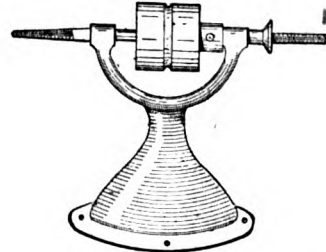

FIG. 1
**Emery-wheel Grinder on Sewing-machine Stand.**—Below are instructions on converting an ordinary sewing-machine stand into a treadle emery-wheel so that the wheel can be covered with the machine cover. Most emery grinders have the pulley fixed about the centre of the spindle (see Fig. 1), and frequently have an emery wheel attached to each end, or an emery wheel at one end and a polishing buff at the other. But if it is desired to use the machine cover in exactly the same position as for the sewing machine, the better plan would be to purchase a cheap emery grinder (Fig. 1), and adapt it to the sewing-machine stand. The grinder is constructed to hold an emery wheel at one end and a drill chuck at the other, but the pulley is